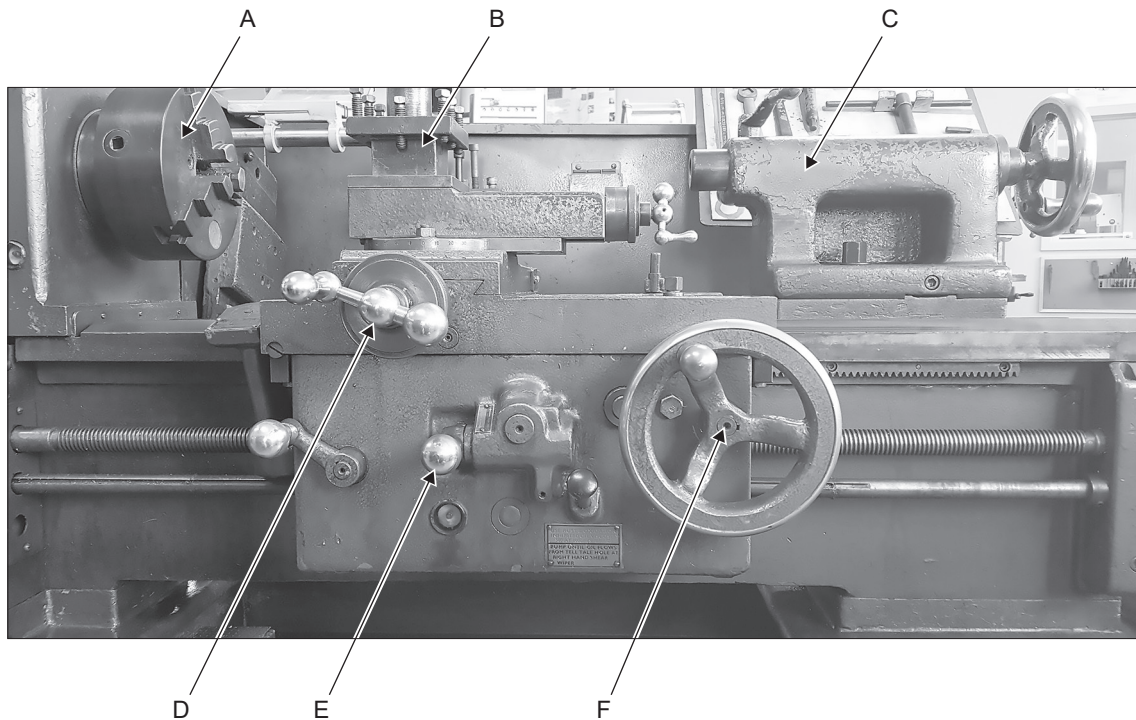

Figure 9
Figure 9 shows a lathe with six parts labelled A to F.
- a. Complete the table below by stating the name and main function of parts A, B and C shown in Figure 9.